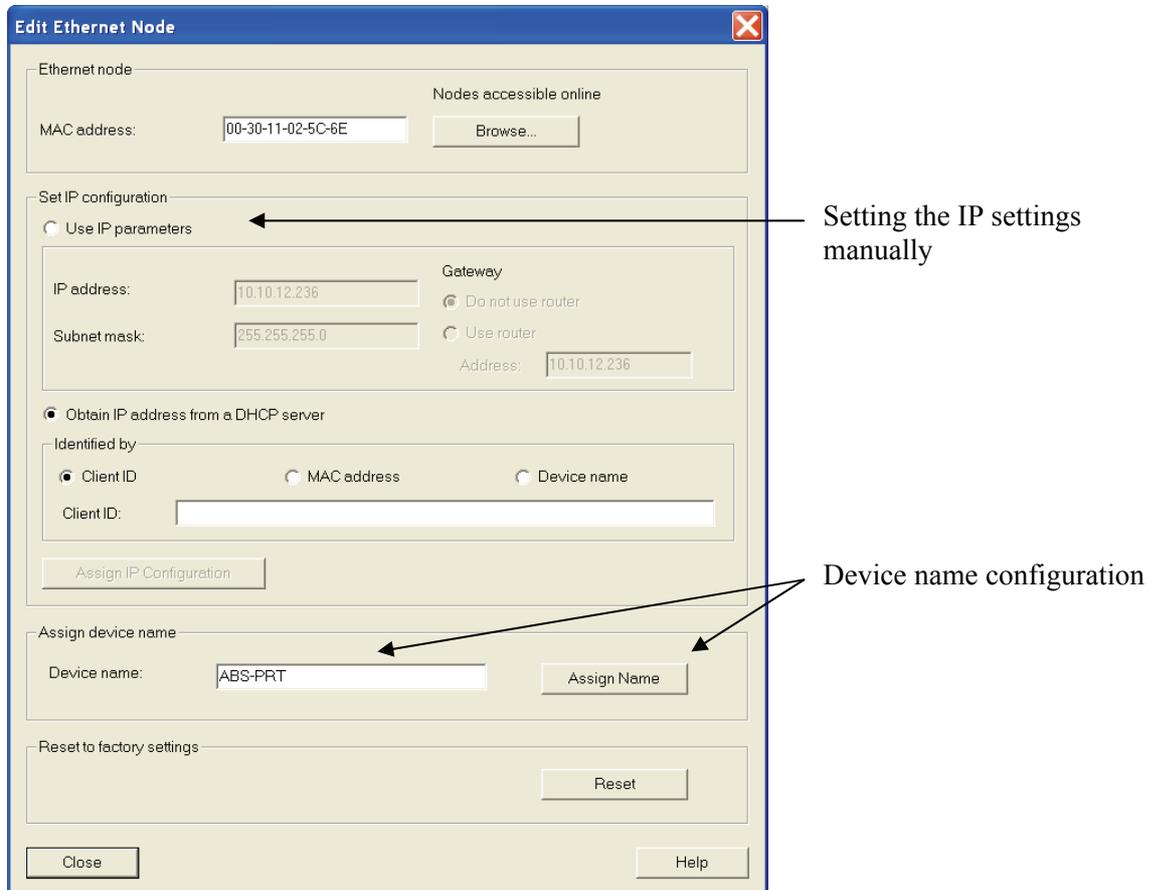

Figure 13 Assigning the Device Name.
The first step is to check out the used Device Name❶. Verify that the same name is used as assigned to the Anybus module as shown in Figure 13 Assigning the Device Name.